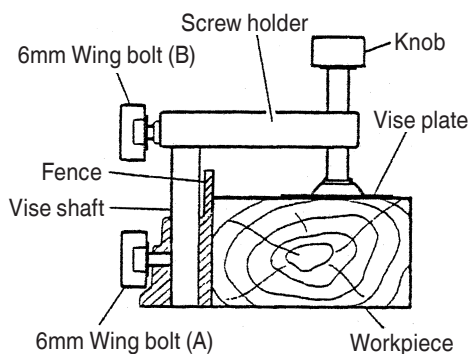

Fig. 14
- (1) The vise assembly can be mounted on either left side of the fence or right side of the fence by loosening the 6mm wing bolt (A).
- (2) The screw holder can be raised or lowered according to the height of the workpiece by loosening the 6mm wing bolt (B). After the adjustment, firmly tighten the 6mm wing bolt (B) and fix the screw holder.
- (3) Turn the upper knob and securely fix the workpiece in position (Fig. 14).